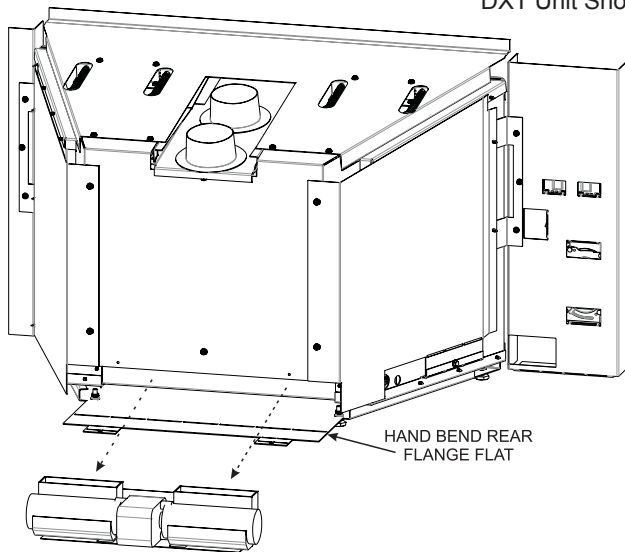

Figure 37
5. Remove the two screws securing the bottom flange to the firebox. **See Figure 37.**
6. Hand bend the flange so that lays flat. **See Figure 37.**